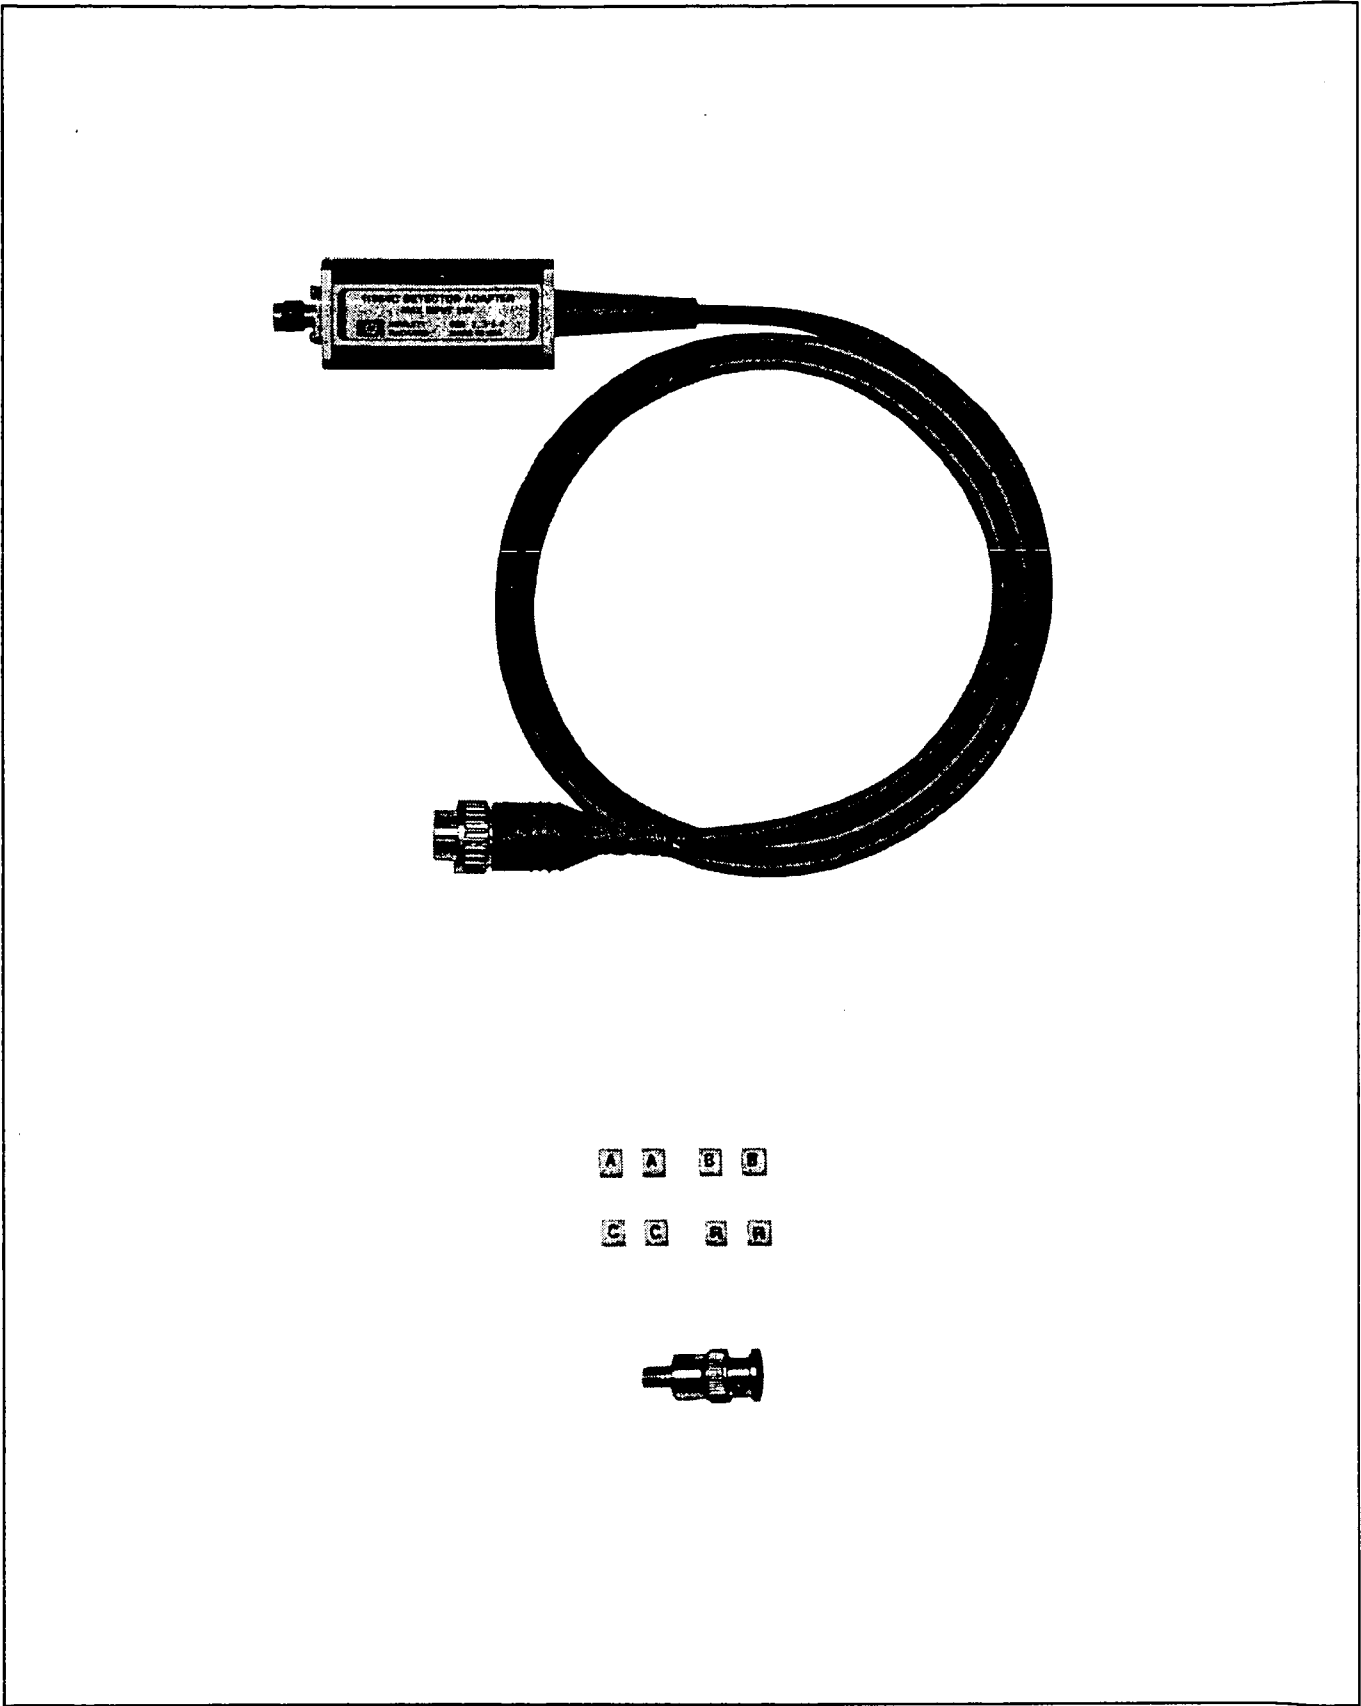

Figure 1. HP 11664C and Accessories Supplied
This manual contains information required to operate, test and service the HP 11664C detector adapter. Figure 1 shows the product and the accessories that are supplied with it.
1. Check the package for completeness. Figure 1 shows the items you should receive.